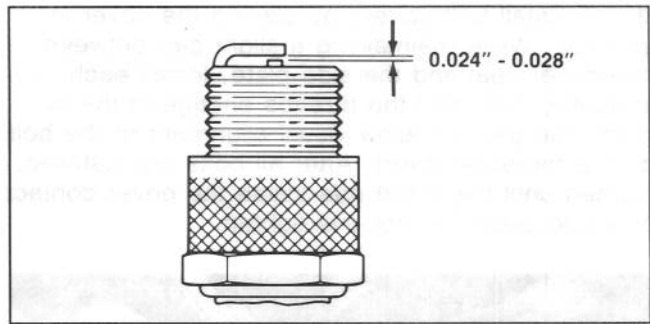

Figure 33
- 3. Set air gap at 0.024" - 0.028" (Fig. 33). Install correctly gapped spark plug and tighten firmly to 20 ft-lb.